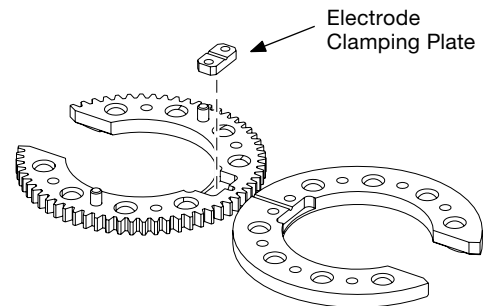

Figure 38 Removing the Electrode Clamping Plate
9. Remove the electrode clamping plate. Clean it with a fine-grit abrasive pad. See Figure 38.